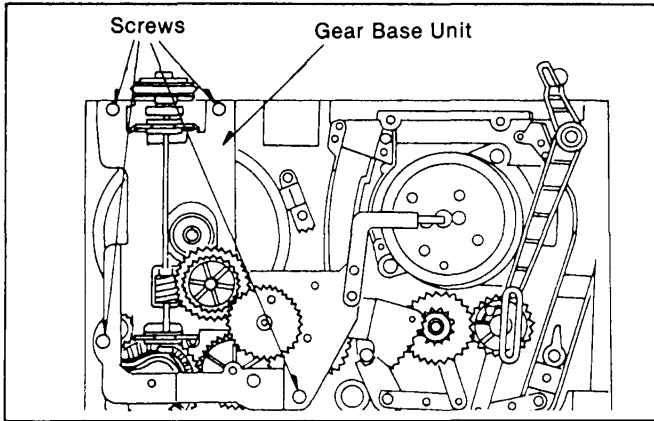

Figure M58
1. Install the Gear Base Unit and screw 4 screws as shown in Figure M58.